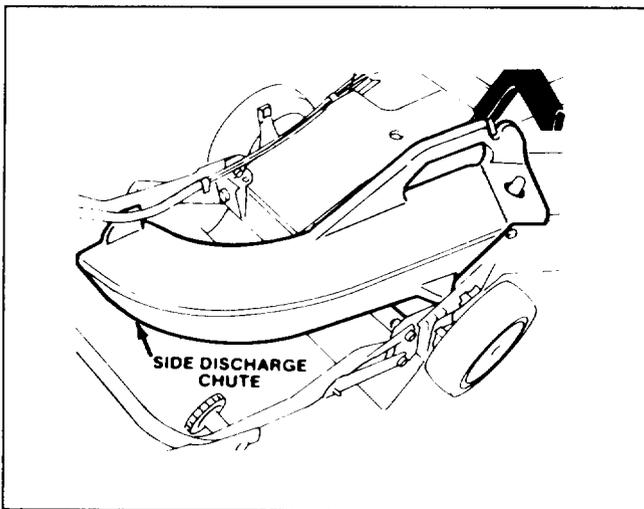

Figure 33
1. **Side Discharge Kit, Model No. 59168**—Installs in seconds. Rear mounted in place of the grass bag or Recycler plug. Disperses clippings while trimming on both sides (Fig. 33).